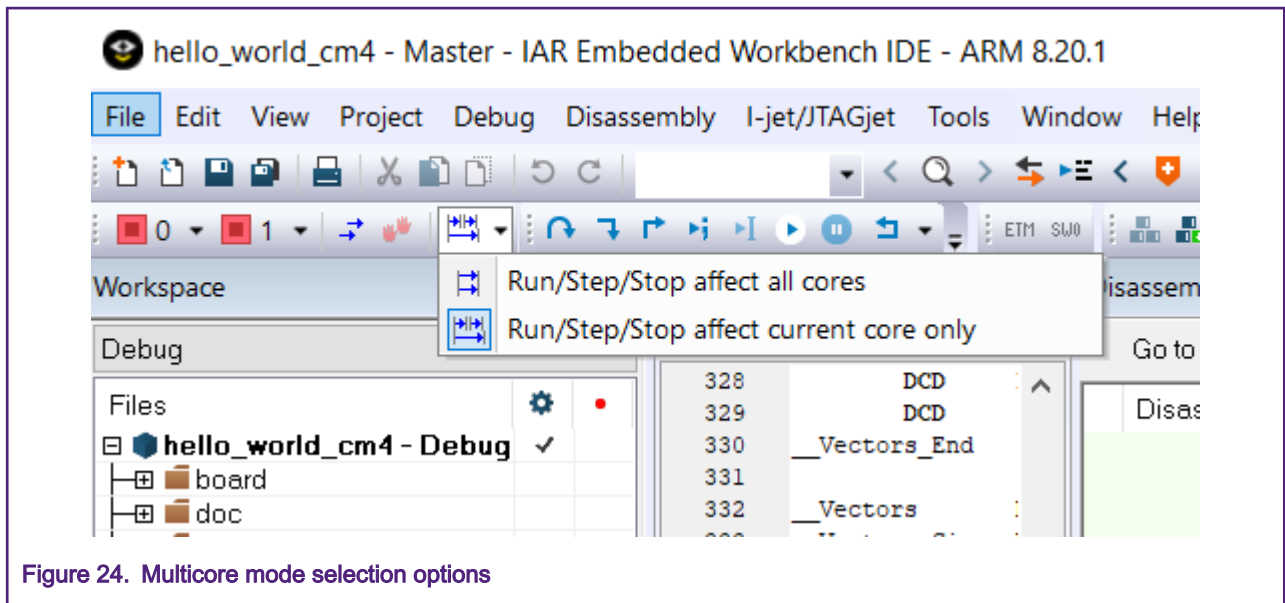

Figure 24. Multicore mode selection options
6. Clicking the down arrow next to this button will allow the user to change between single core operation and dual-core operation, as shown in Figure 24.